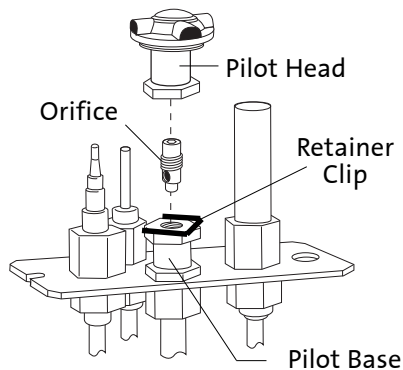

Figure 25. Pilot orifice removal and replacement.
11. **CHANGE THE PILOT ORIFICE: From within the firebox, remove the Pilot Head by pulling it straight up from the pilot base.** See fig. 25.